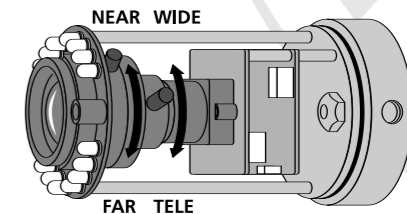
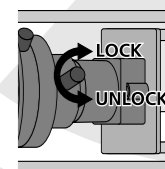

Figure 4
Figure 5
STEP 3: Once the picture appears on the monitor, make the Zoom Adjustment by rotating the long screw (NEAR-Anti-clockwise, FAR Clockwise) until you get the desired view. Next make the Focal Adjustment by rotating the long screw (TELE-Anti-clockwise, WIDE Clockwise) until you get the desired view (as shown in Figure 4). (If the long screw does not move turn it Anti-clockwise to unscrew it, this will loosen it and allow you to make the adjustment, after adjustment tighten both screws by turning Clockwise, see Figure 5).